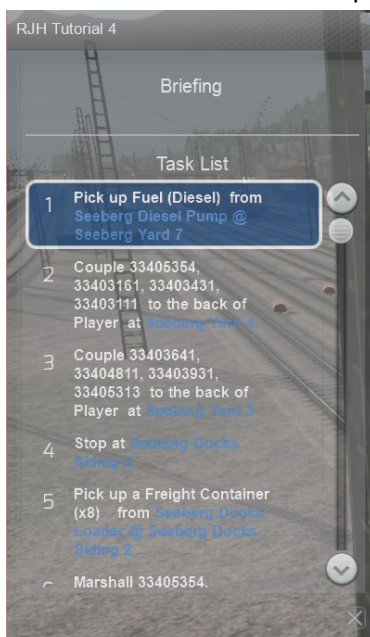

Figure 65. Combining instructions in the workorder (5th item)
If you play the scenario, each loading instruction will appear as a separate instruction in the workorder. This not really what we want to see. Fortunately there is a trick. We can merge instructions in the workorder to a single instruction (Figure 65). In order to do so, put check marks to the left of each loading instruction (nr 1). Then
select the **merge** instruction icon (2). Finally you need to deselect all involved instructions (nr 3). As you can see the horizontal separation lines have disappeared in the instructions list, which tell you all these instructions will show up as a single instruction. In Figure 65 you see what it looks like in the workorder.